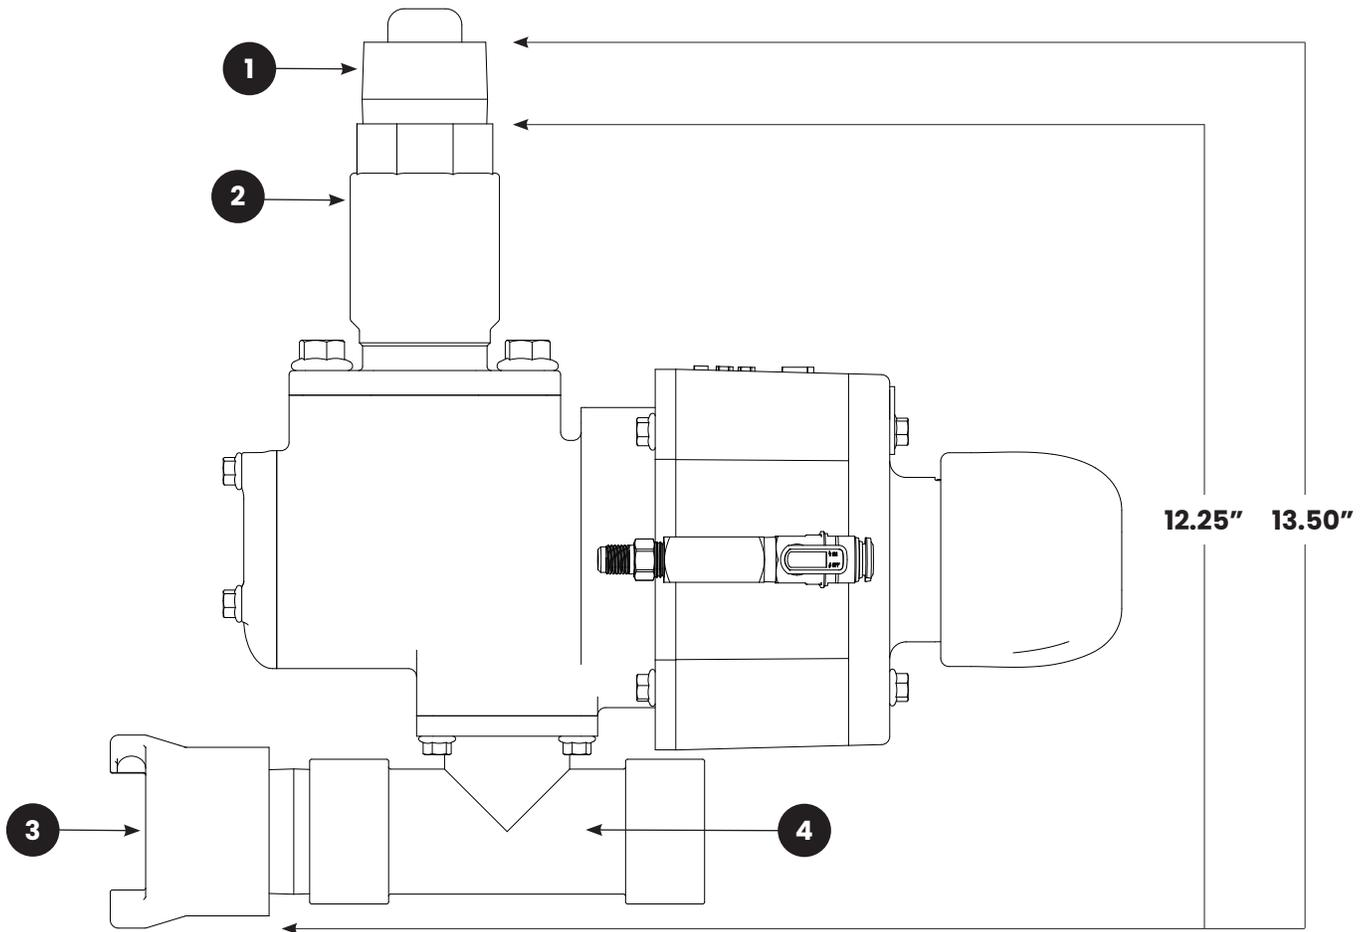

FIGURE 2: (1) 1.50" Installation Nipple; (2) Flanged Ball Valve; (3) Hose Coupling (REF) not included; (4) Outlet Tee
2.1.3 | Before removing the existing metering valve, refer to **Figure 2** to determine the ground clearance required for each of the valve options. Besides the height of the PQV-Pro Valve, an additional 1.75" is needed to allow for the installation nipple and blast hose coupling. Measure the distance from the bottom of the blast machine to ground level to make sure the blast machine has the clearance to accommodate the valve. **NOTE:** A 1.50" x 1.25" bushing may be required on the blast machine, depending on the vintage of the machine. The bushing increases the clearance needed to install the valve.